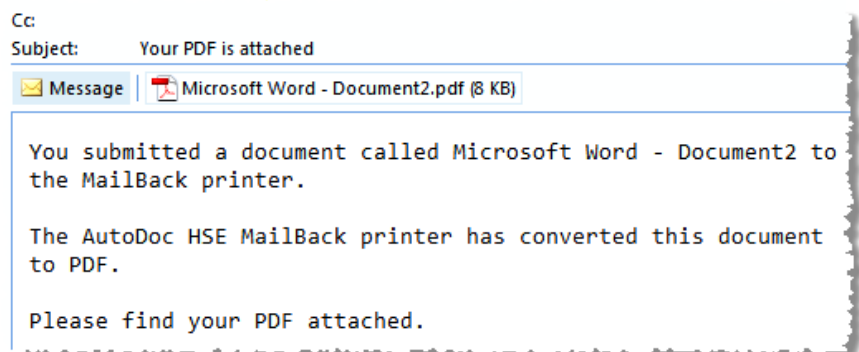

FIGURE 32 – showing areas of the e-mail tab that have been configured especially for a mailback situation.
3. If desired, you could configure form 23 with appropriate information for a mailback function. It is important that the e-mail should be sent under the CREATOR/OWNER option, to ensure the e-mail address of the creator is used in the %emailaddress% indicator (see Figure 32 on page 170).